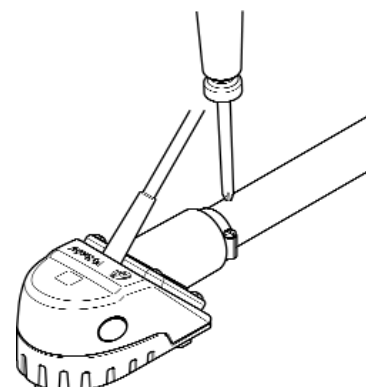

Fig 6 Attaching jubilee clips
- FIG 6 STRAINER IC CONNECTION
- Use 19mm (3/4") smooth bore reinforced hose to connect to the strainer with hose clips (Fig 6).